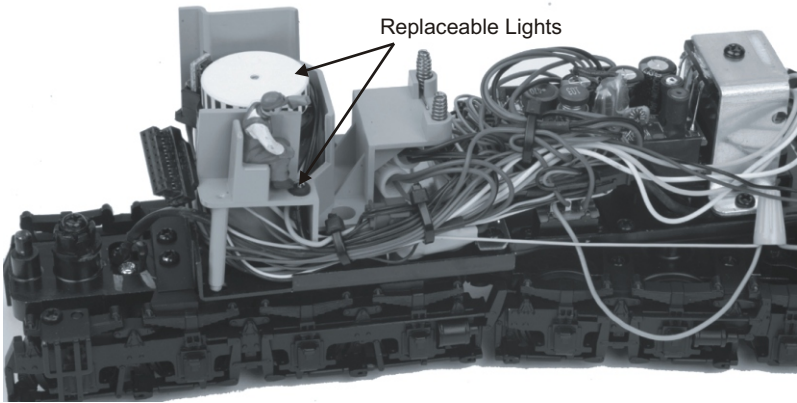

Figure 6. Locations of Replaceable Lights
1. To access the gear box, remove the cab from the chassis by unscrewing the chassis screws as seen in Figure 6 and lifting the cab from the chassis.
Lubricate the outside truck block idler and drive gears with grease. Use the diagram shown in Figure 6 below as a guide and add grease to the point marked with a “G.”
If you experience poor or no smoke output when the smoke unit is on and has fluid, check the wick to see if it has become hard, blackened, and unabsorbent around the heating element. To remove the smoke unit you will first have to remove the boiler shell (by removing the body mounting screws shown in Fig 6 on pg. 11), board and bracket that block the smoke unit assembly from being accessed. To do this, follow these instructions: